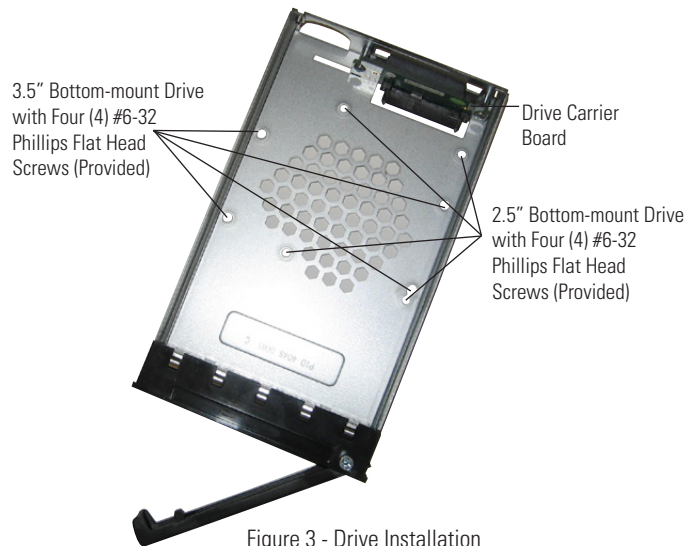

Figure 3 - Drive Installation
2. Carefully insert the drive (not included) into the carrier. Slide the drive towards the Drive Carrier Board, so that the I/O connector on the drive mates with the connector on the Drive Carrier Board (Figure 3). Turn the drive/carrier assembly over.
3. Fasten the drive into place with four (4) #6-32 Phillips Flat Head screws (Figure 3). Some drives may require minor adjustment before securing into carrier with screws.